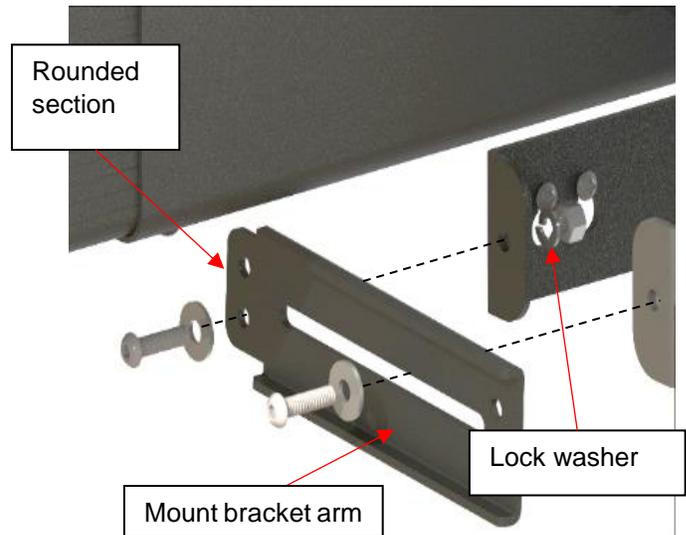

Figure 98
19) Attach the **top** mount bracket arms to the tub mount brackets using the 1/4-20 x 1" hex drive bolt, 1/4" flat washer on the outside. Use a 1/4 lock washer and 1/4-20 nut on the inside. Use a 5/32" (4 mm) drive and 7/16" (11 mm) spanner (Figure 98 and Figure 99)
20) Just as with the top brackets, attach the **bottom** mount bracket arms to the tub mount brackets using the 1/4-20 x 1" hex drive bolt, 1/4" flat washer on the outside. Use a 1/4" lock washer and 1/4-20 nut on the inside. Use a 5/32" (4 mm) drive and 7/16" (11 mm) spanner (Figure 98 and Figure 99)